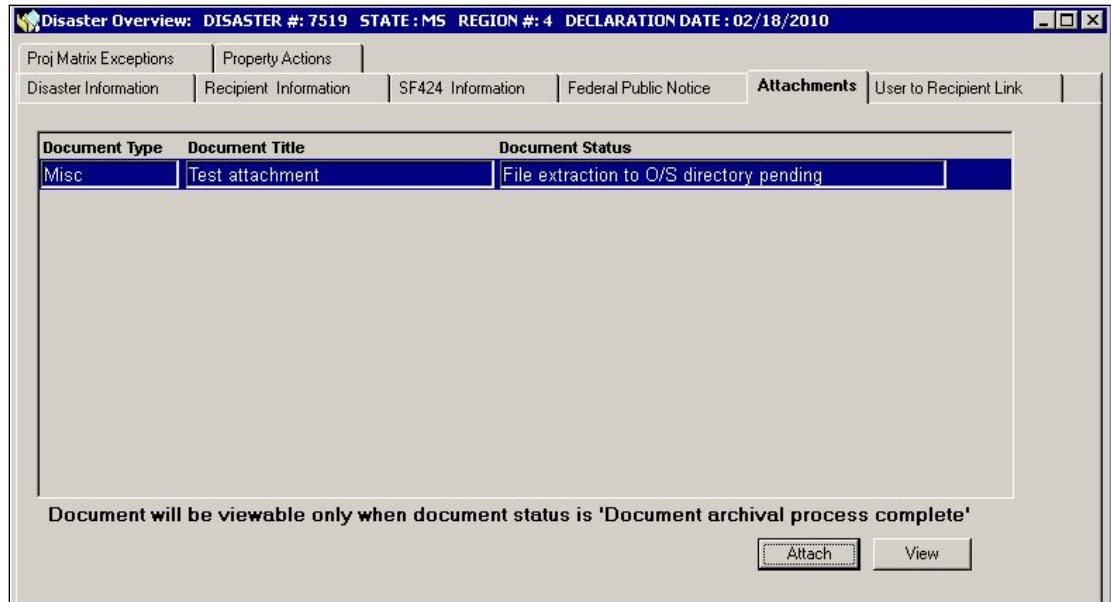

Figure A-6: Attachments Tab with Document List
9. The document name is displayed on the **Attachments** tab (Figure A-6).